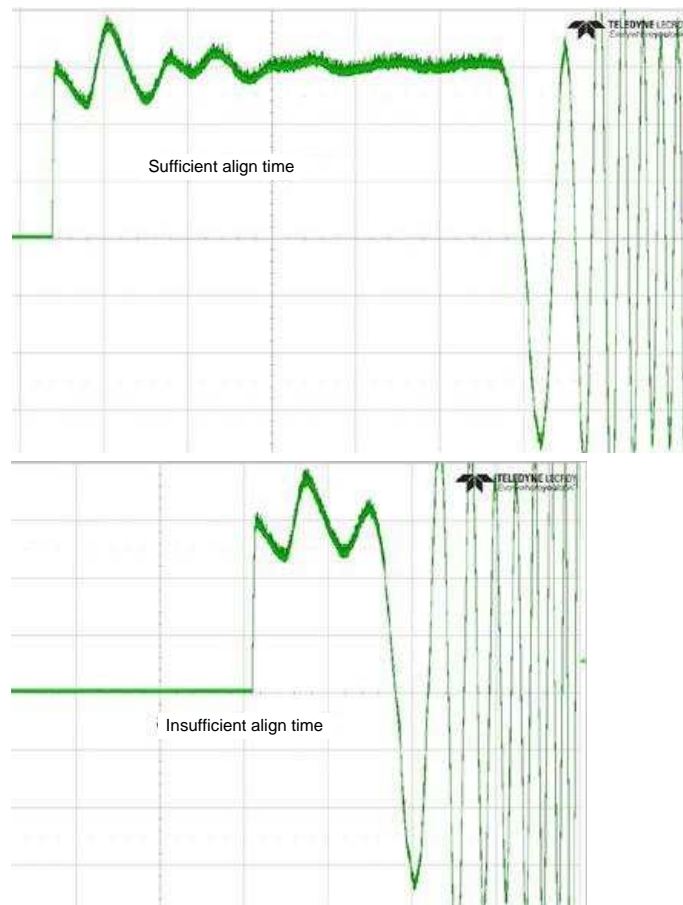

Figure 37. Sufficient versus Insufficient Align Time
- The traditional align and go is to set the second order accelerate to 0.22 Hz/s², then set the align time to be long enough that the motor can basically stop during align. Figure 37 show a sufficient align time and an insufficient align time.